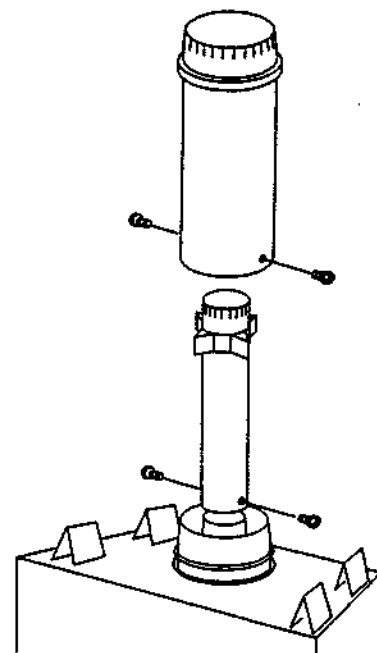

Figure 19
B. The vent sections are crimped at one end to provide a slip fit for elbows and additional vent sections. To begin a vent run, apply \_Mill-Pac Black (700°F) high temperature sealant to the inner joint, being sure of a 100% seal (Figure 19). Slide the 5" (127 mm) inner section onto the center appliance collar, (Crimped end always upward). Locate and transfer drill a 1/8" (3 mm) diameter hole through the collar at the two (2) punched holes (180° apart). Use two (2) No. 8 x 1/2" sheet metal screws to secure the section.
C. Next, slip the outer section over the inner and onto outer appliance collar, bottoming out at the bead. Make sure the crimped end of both inner and outer vent sections are the same height. Secure using two (2) sheet metal screws (Figure 19).